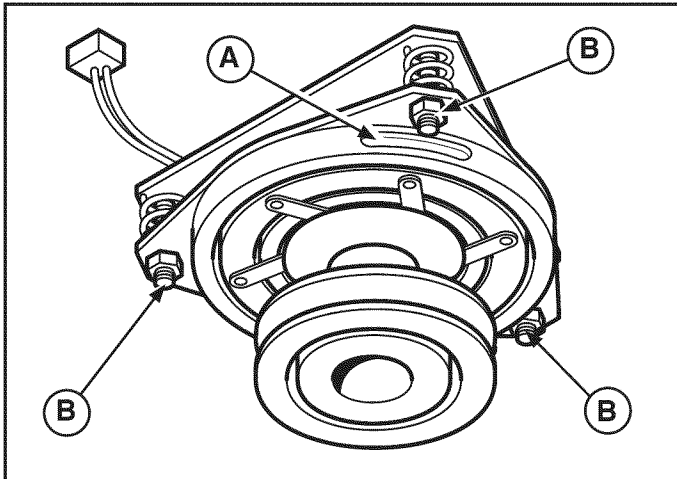

Figure 22
2. Note the position of the 3 adjustment windows (A, Figure 22) in the side of the brake plate and the nylon adjustment nuts (B).
4. Alternately tighten the adjustment nuts (B, Figure 22) until the rotor face and armature face just contacts the gauge.